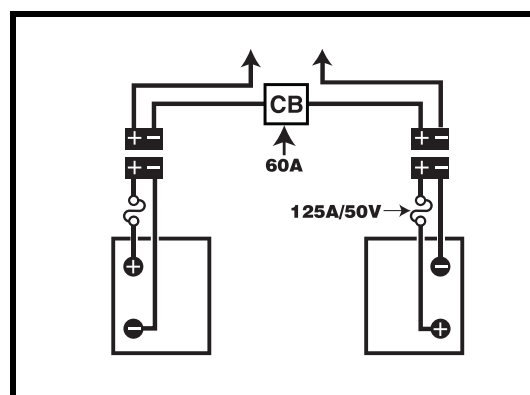

Figure 13. Battery Wiring Diagram
6. Place a new battery in each battery well. Face the battery terminals of each battery away from the seat post. **See figure 13.**